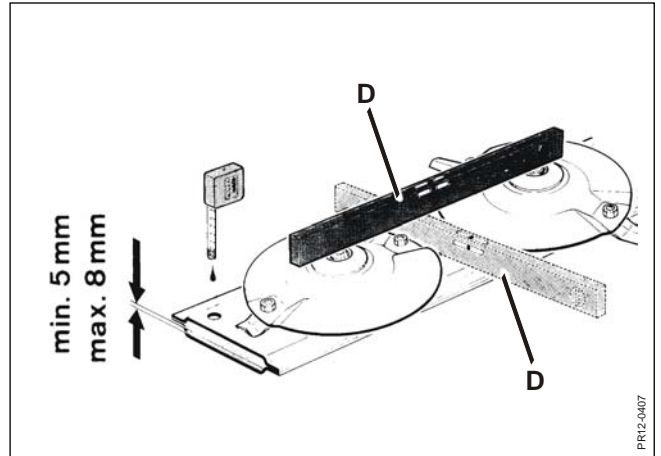

Fig. 4-2
**Fig. 4-2** To check the oil level, place the cutter bar horizontal, which should be checked by means of a level tube **D**, or two, both lengthwise and crosswise. In order to facilitate the daily oil check we recommend you to have a permanent "oil measuring platform" on which the cutter bar can be placed when checking the oil level.